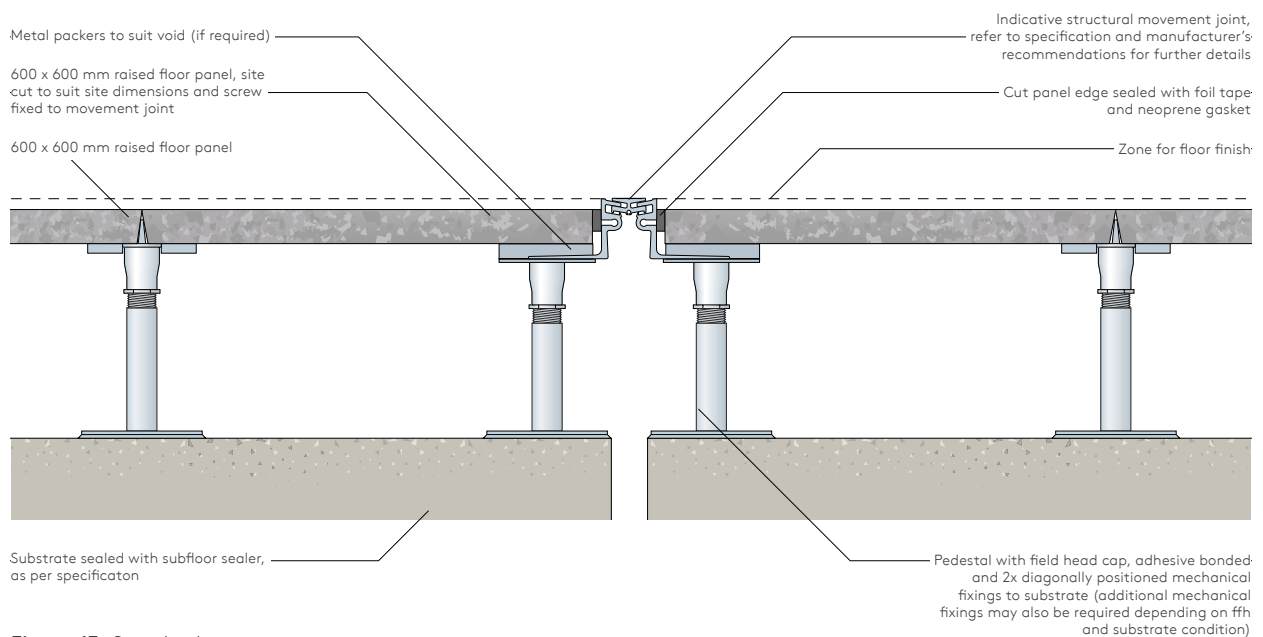

Figure 13. Standard movement joint.
- 1 Attach to the access floor surface a pre-made expansion joint that is designed to be used on a concrete slab (see Figure 13).